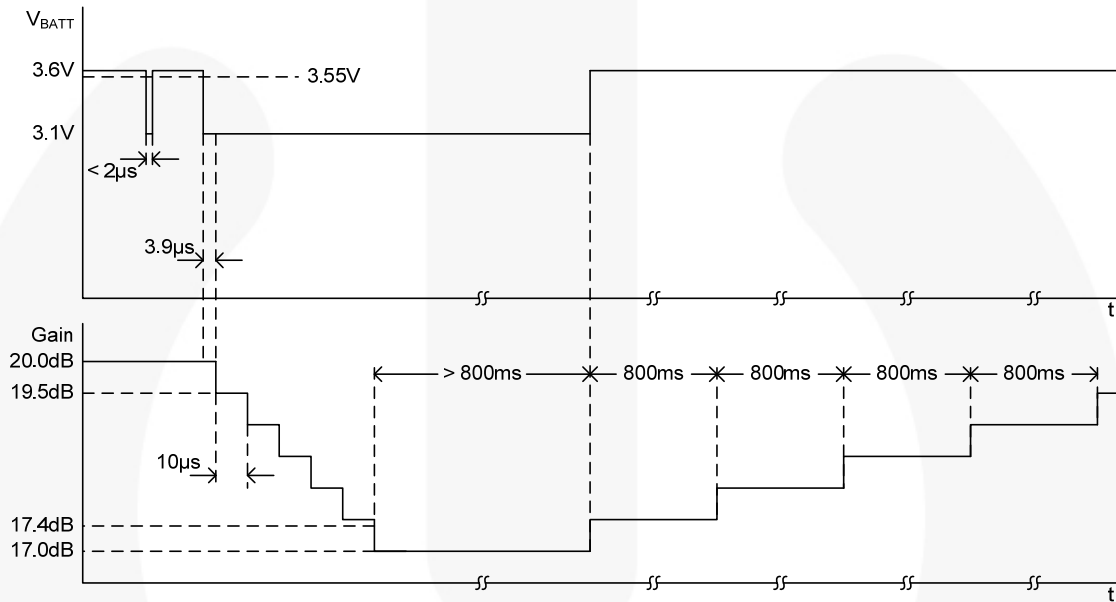
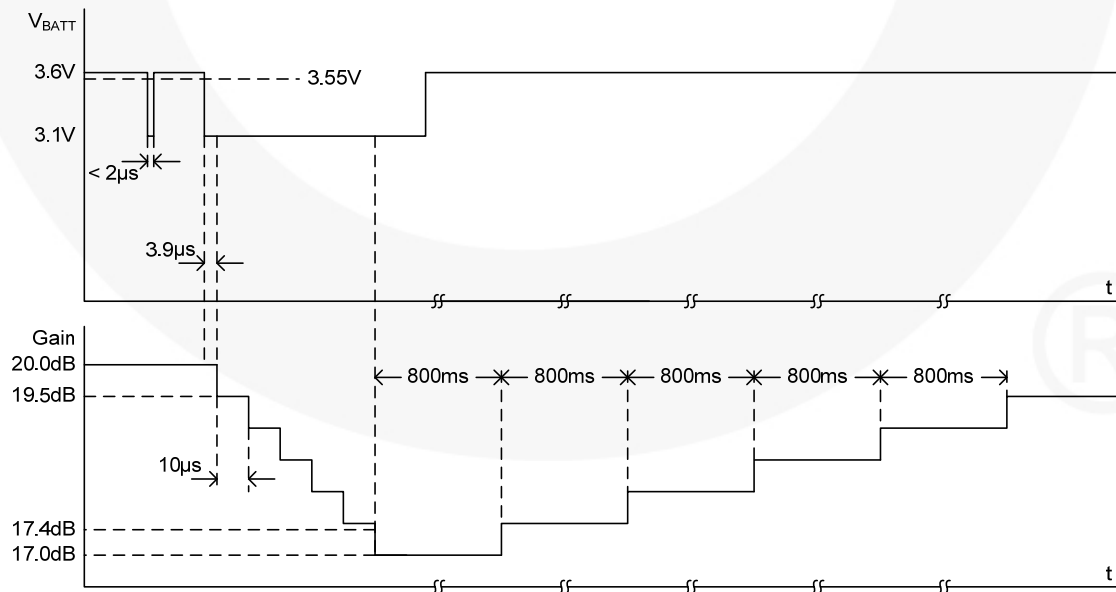

Figure 24. AGC Changes vs. Time, Example 1
Figure 25. AGC Changes vs. Time, Example 2
Figure 24 and Figure 25 show examples of AGC changes over time. In these examples, AGCT is grounded, so the AGC trip point is 3.55V.
6. When  $V_{BATT}$  rises above the trip point, gain increases by 0.5dB. If more than 800ms has passed since the last gain change, gain rises immediately as shown in Figure 24. Otherwise, gain does not rise until after 800ms has passed, as shown in Figure 25.